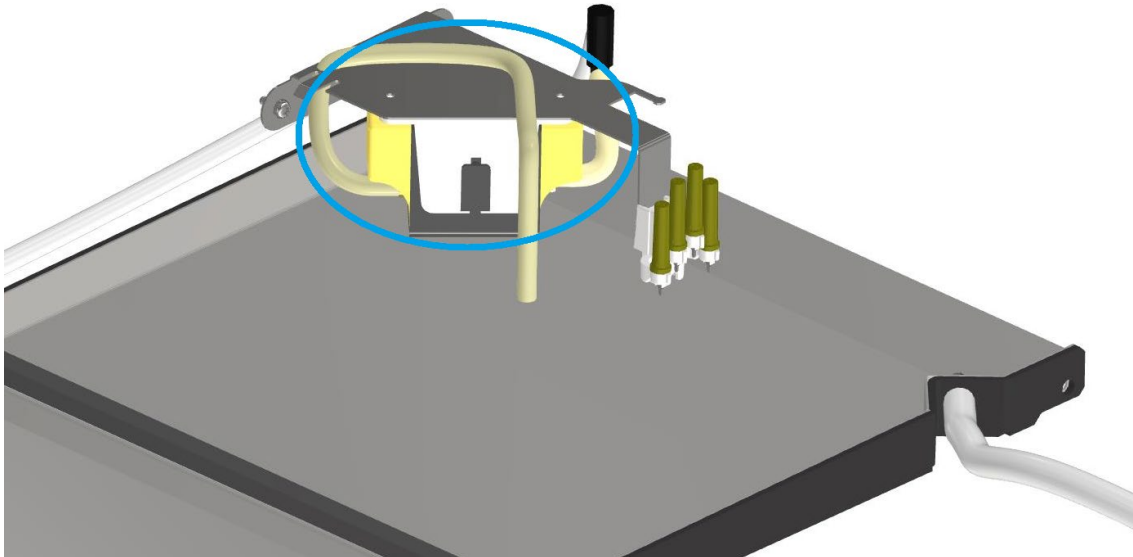

Figure 38: Condensate pump
7. Refer to Figure 38 below: if needed, clean the condensate pump with a damp cloth. There are two pumps, one on each side of the middle tray.